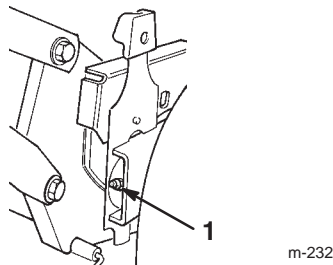

Figure 31
2. Wipe the grease fittings with a clean rag (Fig. 31).
1. Grease fitting (2)
3. Install a grease gun onto the fitting and gently apply two or three pumps of #2 multi-purpose lithium base grease (Fig. 31).